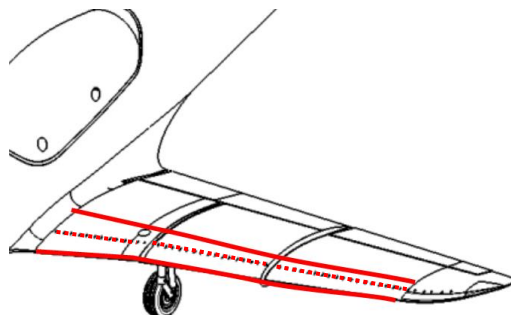

Figure 1 – Bonding lines (the dotted line refers to the bonding line of the lower skin to the forward spar)
1. Perform visual inspection on the external surface of LH and RH wings, checking along the bonding lines of the wing skin to the forward spar and on the leading edge of the wing, in correspondence of the bonding line between upper and lower skins, for presence of deformations, cracks, or any other signs of damages of the external surface. See Figure 1 for the identification of the bonding lines.